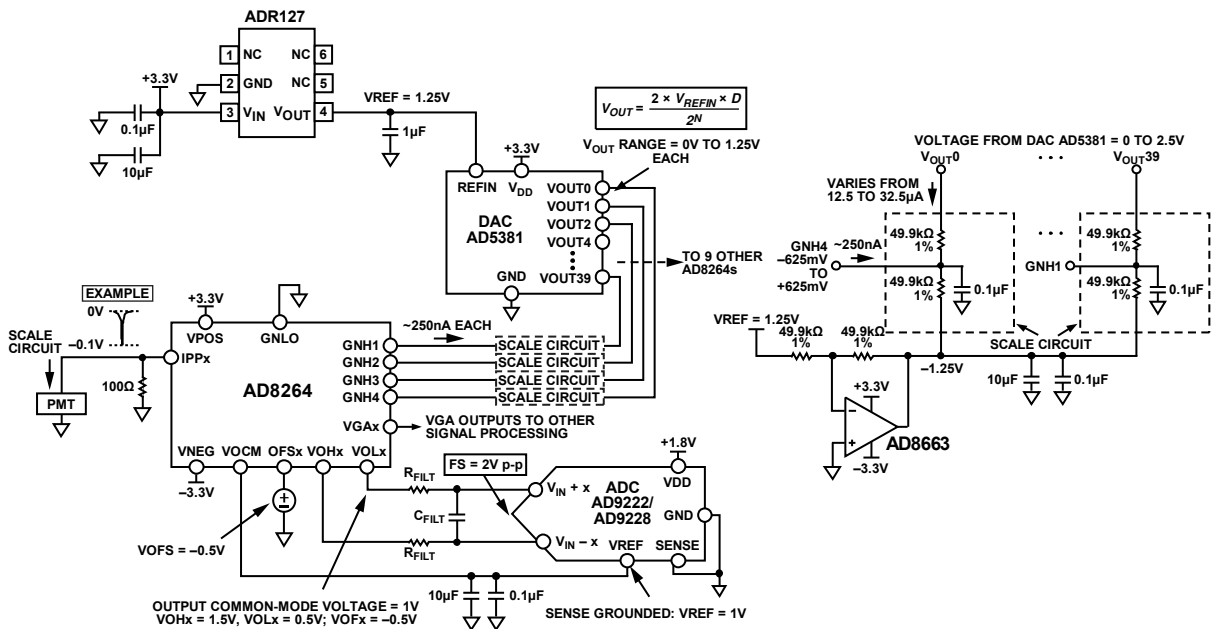

Figure 113. Concept Application of AD8264 with 40-Channel AD5381 12-Bit, 3 V DAC and AD9222/AD9228 12-Bit ADC
The dc connected concept example in Figure 113 is an application with the 40-channel AD5381, 3 V, 12-bit DAC. The main difference between this example and Figure 112 is that, for the same ADR127 1.25 V reference, the full-scale output of the DAC is from 0 V to  $2 \times V_{REFIN} = 2.5$  V. Two options for gain control include the following:
- Ground GNLO and scale the DAC output so that the GNHx inputs vary from  $-0.652$  V to  $+0.625$  V. Figure 113 shows a possible circuit implementation using a divider between the DAC output and a  $-1.25$  V reference.
Figure 113 shows how the AD8264 is connected in a PET application. The PMT generates a negative-going current pulse that results in a voltage pulse at the preamplifier input and a differential output pulse on VOLx and VOHx.
A convenient method of verifying and customizing the signal chains shown in Figure 112 and Figure 113 is by ordering the corresponding evaluation boards available on [www.analog.com](http://www.analog.com). The AD8264-EVALZ is a platform through which the user can quickly become familiar with the features and performance capabilities of the AD8264. See the Evaluation Board section for more information.